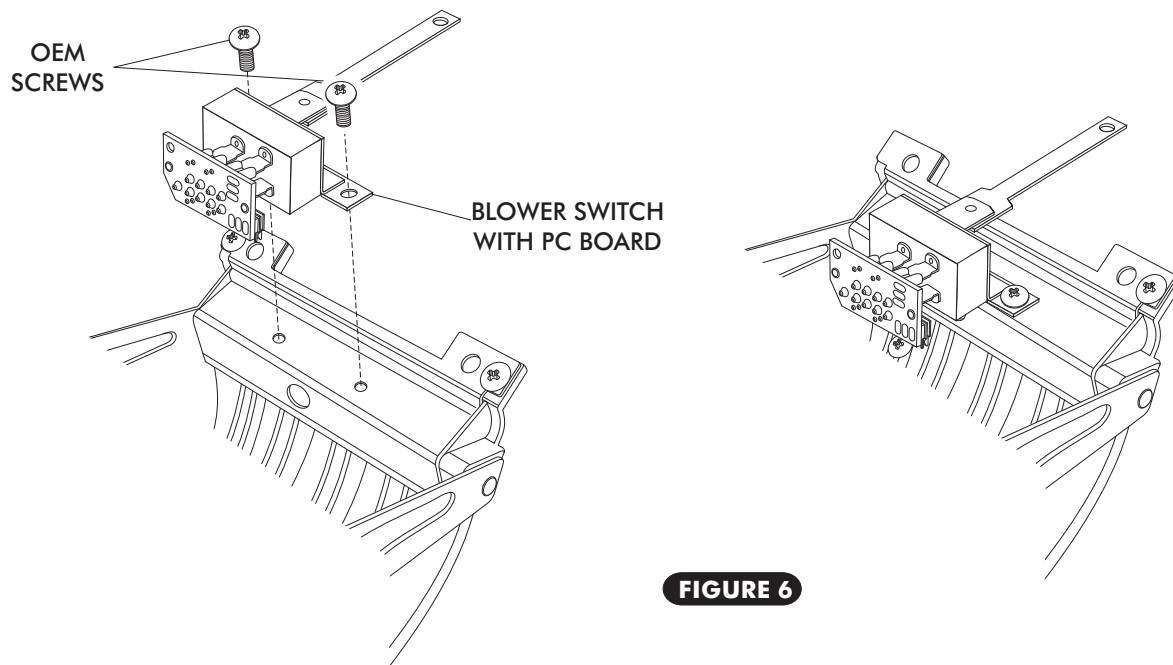

**FIGURE 5**
- INSTALL PC BOARD ON BACKSIDE OF SUPPLIED BLOWER SWITCH. SEE FIGURE 5.